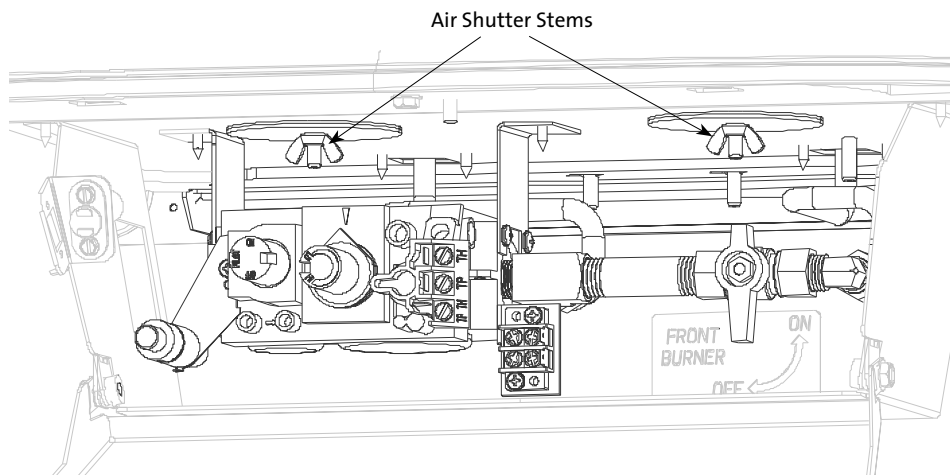

Figure 35.
- 15. Adjust the Air Shutters. Fig. 35**